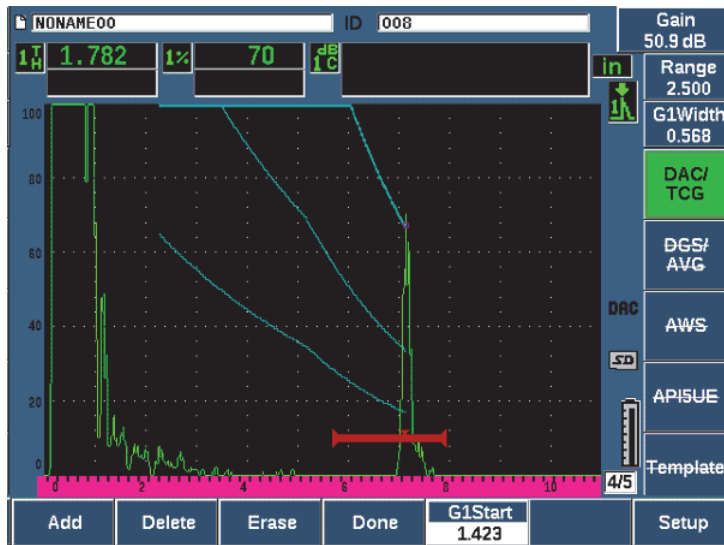

Figure 11-5 Partial DAC curve with each echo set to 80 % FSH
7. Repeat capturing until a curve is built (See Figure 11-5 on page 243.)
In the example above (Figure 11-5 on page 243), the instrument has drawn a DAC curve with three levels from the first point to the second. You have used the AUTO 80 % function to bring the second point to 80 % full-screen height. This assures that the point is captured accurately because amplitude resolution is better at greater echo heights. This also pushes the first captured echo over 110 % FSH so the main DAC curve and the -6 dB warning curve extend downward to the second point from off-screen.